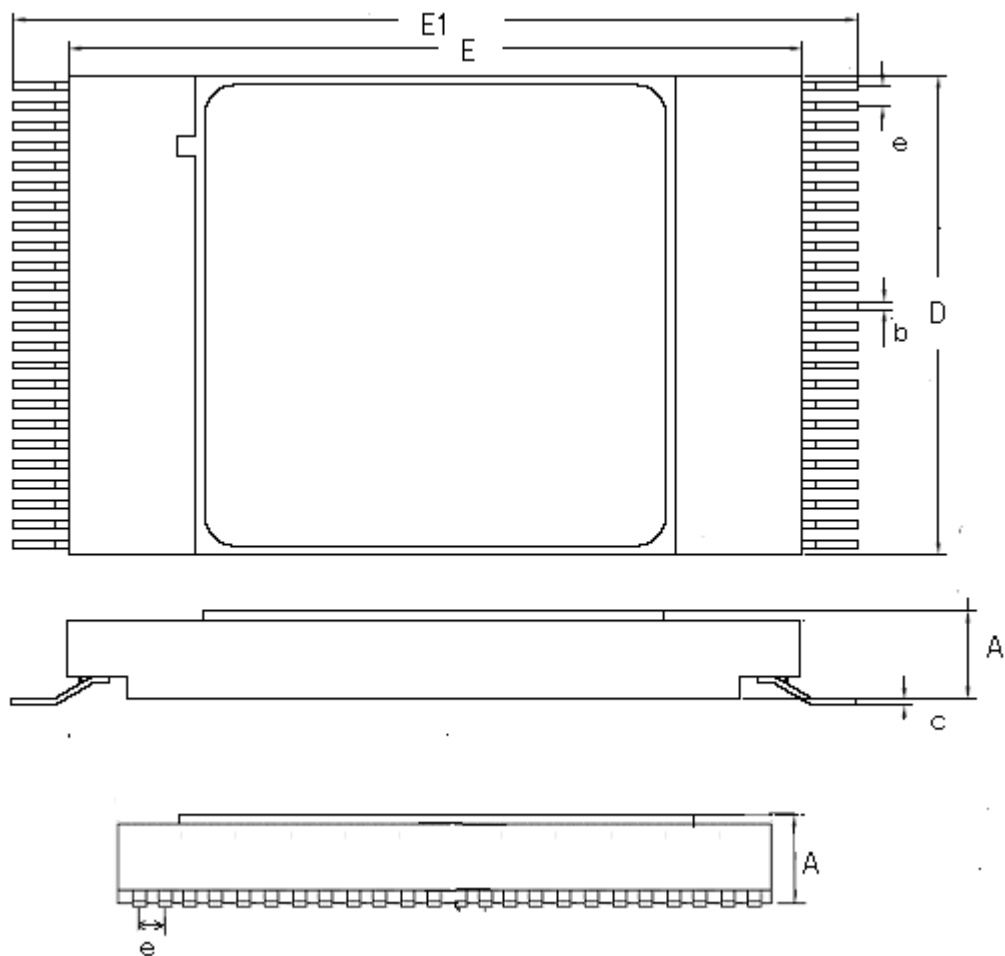

Figure 18. CSOP48 dimensions
- The device adopts 48-lead ceramic sealed CSOP package, and its dimensions refer to the provisions of GB/T 7092-1993. The shell shape is shown in Figure 18.